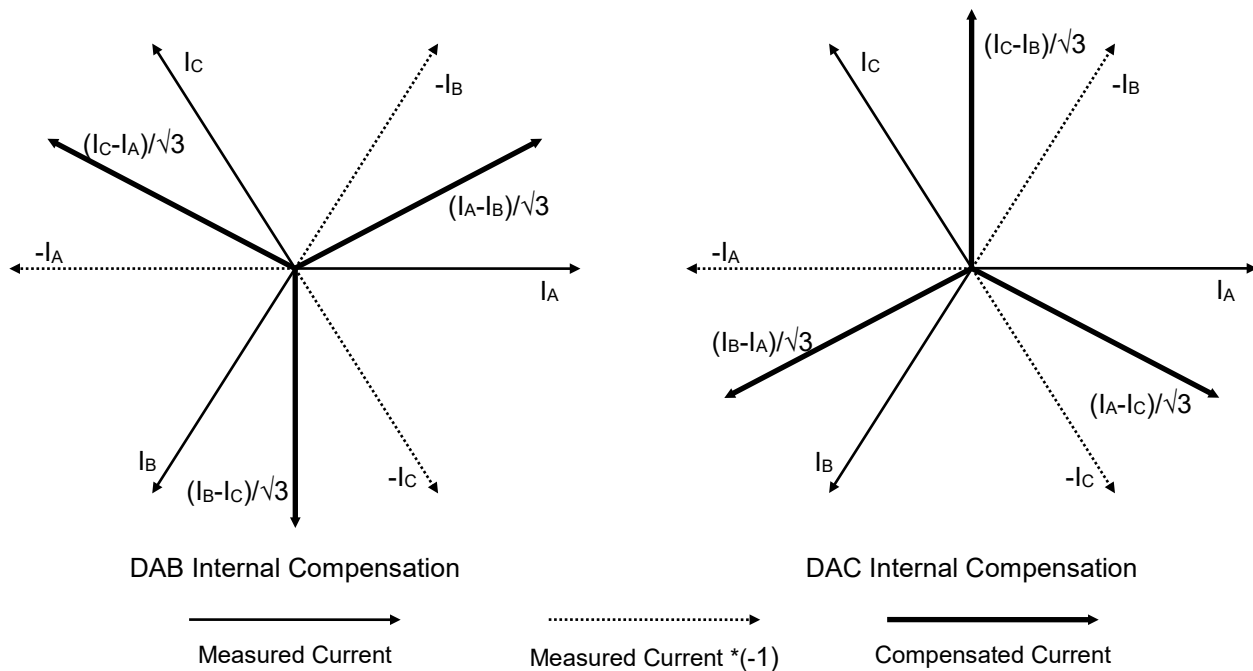

Figure 53-6. Internal Phase and Zero-Sequence Compensation
Figure 53-6 shows how the currents will be calculated for each set of current inputs for use by the Current Differential Protection (87) element. The calculation is dependent upon the phase compensation chosen as shown in the previous tables and the ground source setting.